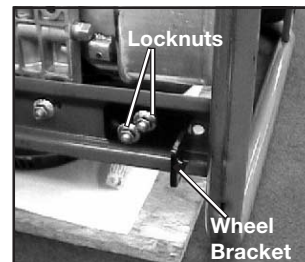

Figure 3
- Using two screws (8) and two lock nuts (9) install the wheel bracket (5) on the bottom right side of the engine support as shown in Figure 3.